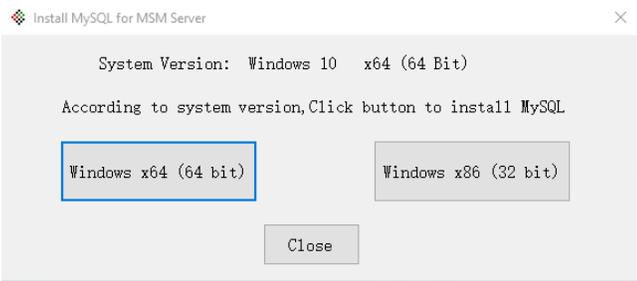

Figure 10
12. If MySQL 8.0 is not already installed, the MySQL installation window will appear. (Figure 10) See Appendix A of this manual for MySQL installation & configuration information.